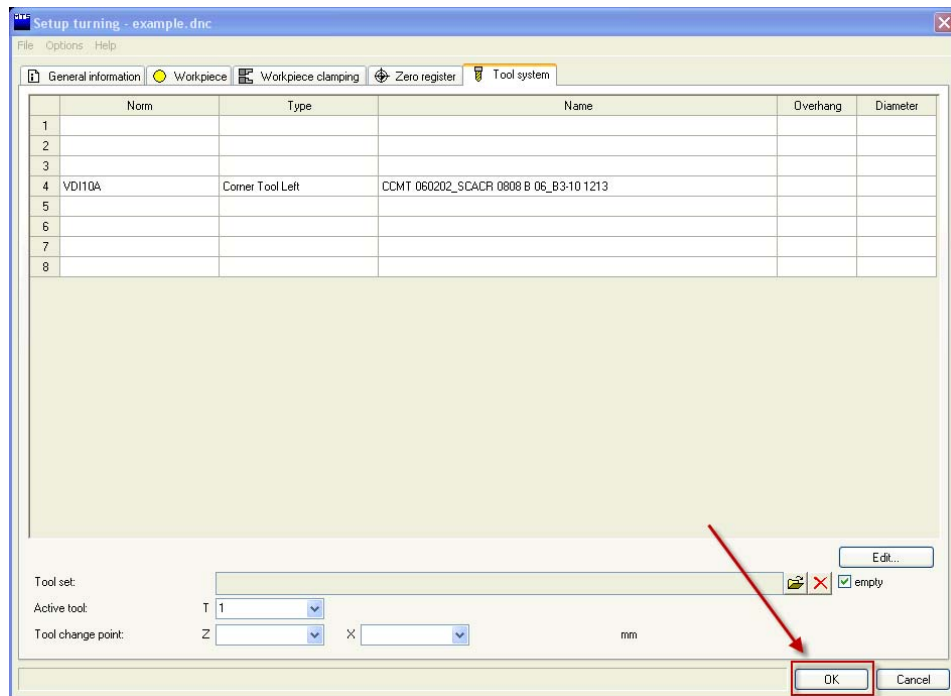

Fig. 2.21
9. Click **“OK”** to end the setup as shown in Fig. 2.21.